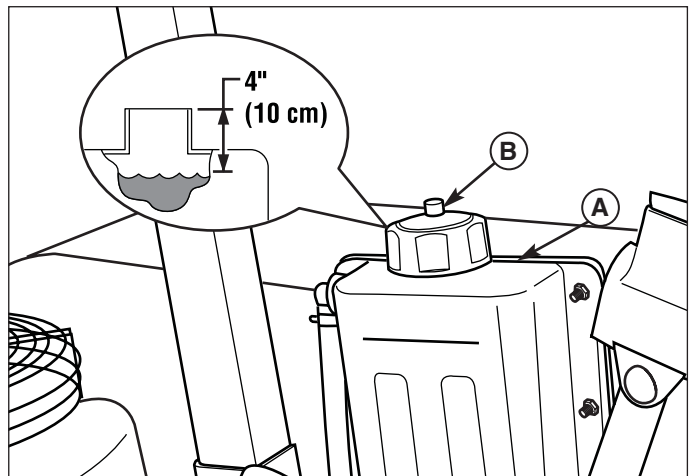

Figure 12. Checking the Hydraulic Oil Level
2. Unscrew the reservoir cap (B, Figure 12).
3. Look down the filler neck of the hydraulic oil reservoir (A) and observe the oil level. When cold, the oil level should be approximately 4" (10 cm) below top of the filler neck.